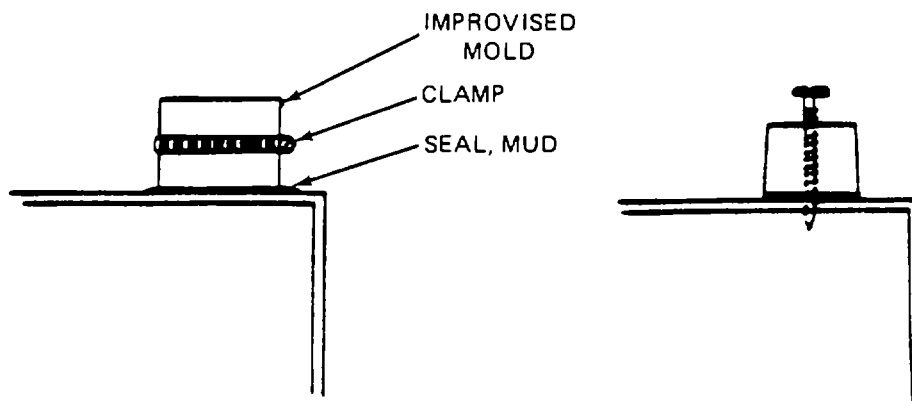

Figure 7-11. Battery Terminal Part Repair.
**7-17. Battery Terminal Post, Broken.** Battery terminal posts can be repaired if they are broken. The stub can be built back up with lead (figure 7-11). If melting facilities or tools are not available a post can be secured with a self-tapping screw or bolt. The battery should be replaced as soon as possible if the post is only screwed or bolted in place. Corroded or loose terminals are frequently a cause of starting system failure. See specific TM for corrective action.